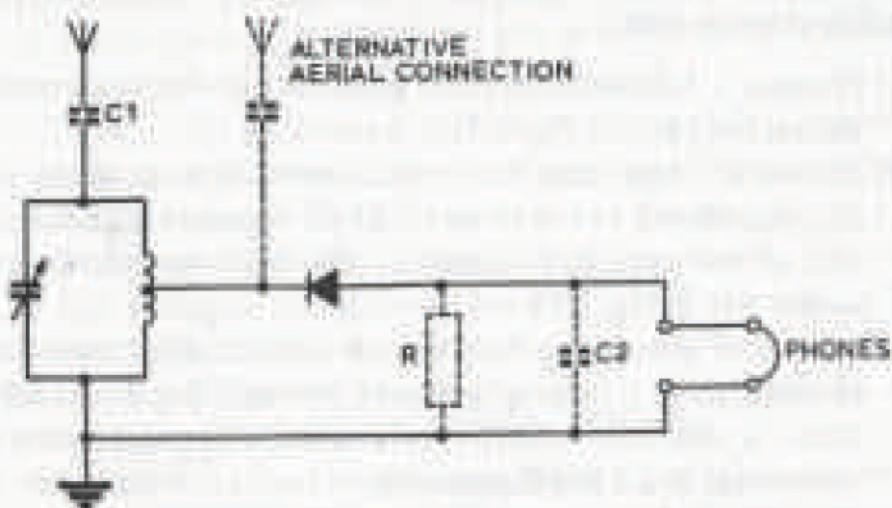

Fig. 3.5 Circuit I. Circuit diagram of basic crystal set.
The wiring-up can be checked against the *circuit diagram* shown in Fig. 3.5 (ignoring the components shown with broken lines). The set should now be 'working'.
- (i) Connect a 1,000-pF capacitor across the headphone (earpiece) connections (C2 in Fig. 3.5).
- (ii) Instead of connecting the external aerial directly to the tuned circuit, connect one lead to a 220-pF capacitor, and the other end of the capacitor circuit to the 'hot' end of the tuned circuit (C1 in Fig. 3.5).
(iv) Try connecting a 1.2-k resistor (or higher value) across the phone connection (R in Fig. 3.5). You may be using the wrong type of phones or earpiece, which do not provide a proper load or complete the circuit.